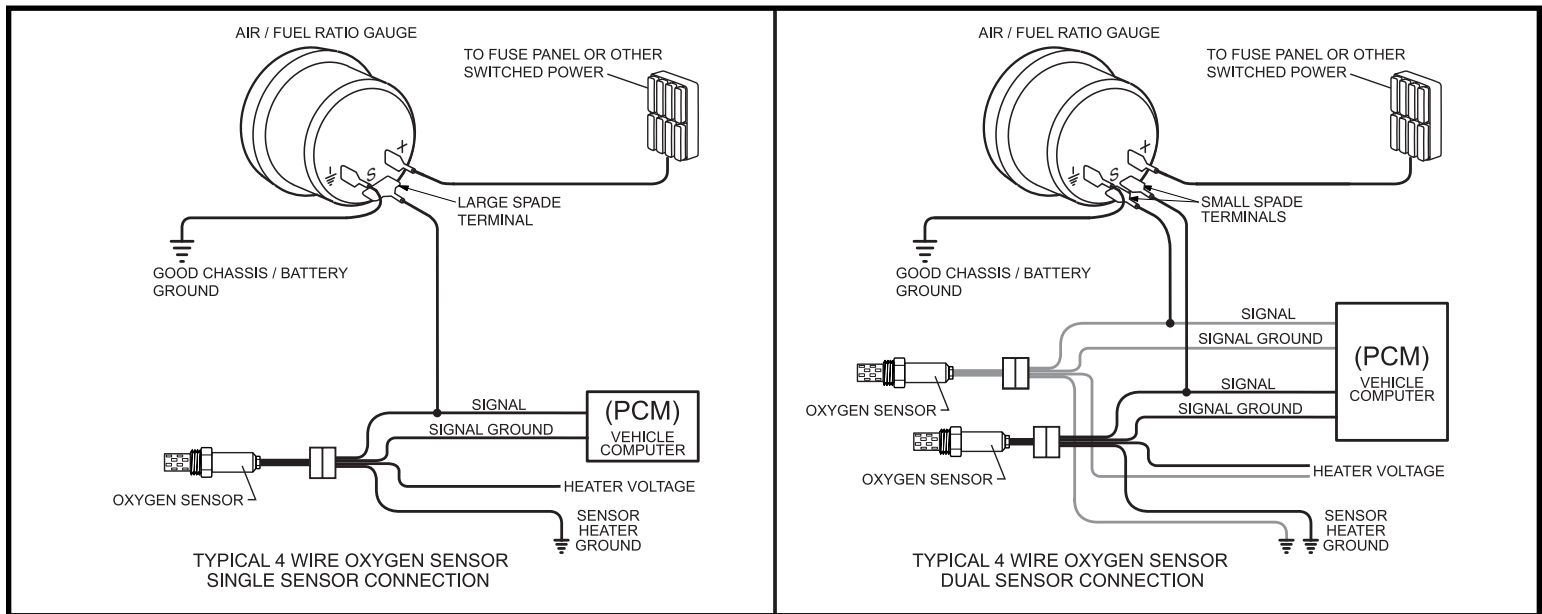

Figure 3. Air/Fuel Ratio Gauge Connections
Refer to Figure 3 (on back page) and make gauge connections as follows.
6. Connect the signal wires (see figure 3) to the Air/Fuel Ratio Gauge and the vehicle's oxygen sensor(s) SIGNAL circuit(s) as follows:
- If your vehicle is equipped with two pre-catalytic converter Oxygen sensors, crimp or solder two wires to the two small female spade terminals (included in gauge kit), and connect the terminals to the two small male spade signal posts on back of the gauge. Splice one of the loose ends of the gauge signal wires to the signal circuit of the oxygen sensor on Bank 1 of the engine, splice the other signal wire to the oxygen sensor signal circuit on Bank 2 of the engine. This allows the LEDs on the right side of the gauge to display the air/fuel ratio for Bank 1 oxygen sensor and the LEDs on the Left side of the gauge to display the Air/Fuel Ratio for Bank 2 oxygen sensor (see figure 3).